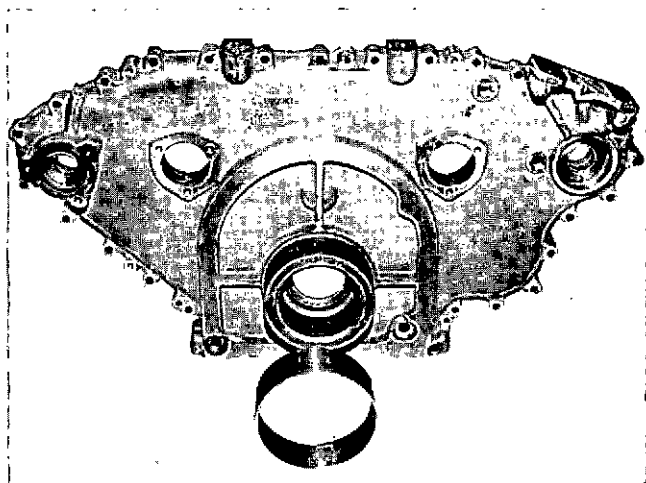

Fig. 1-11-1, V40151. Gear case cover and trunnion bushing
2. Machine gear case trunnion to 6.247 to 6.250 inch [158.6738 to 158.7500 mm] outer diameter, Fig. 1-11-1.